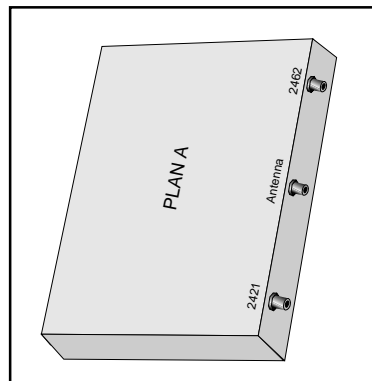

Figure 2-1. Diplexer
2. The RF unit may be identified by following the connection from the port labelled “IF” on the rear of the RFC. This connection terminates at the RF unit. The diplexer may be identified by following the connection from the “Antenna” port on the rear of the RFC. This connection terminates at the diplexer, illustrated in the **Figure 2-1**.